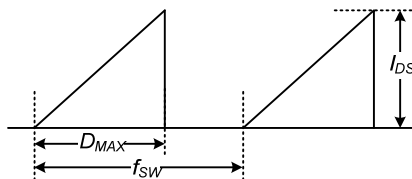

Figure 4. Repetitive Peak Switching Current
6. Repetitive peak switching current when the inductive load is assumed: Limited by maximum duty ($D_{MAX}=0.74$) and junction temperature (see Figure 4.).